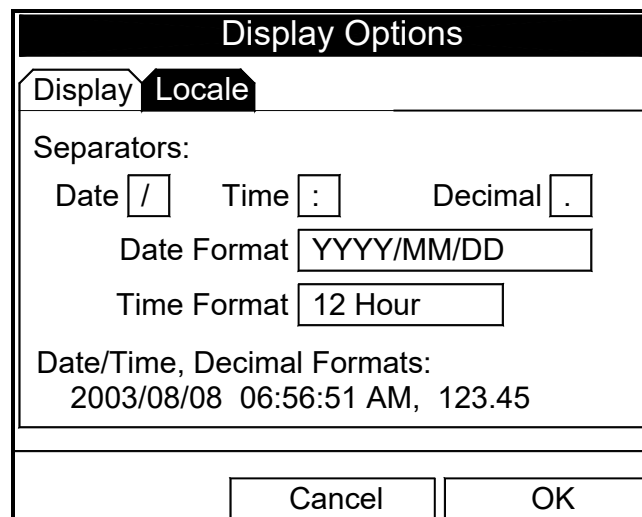

Figure 63: Display Options Window - Locale Tab
1. From the Meter menu, scroll to the Locale tab and press [ENTER]. The Display Options window opens on the Locale tab, as shown in Figure 63 below. To step through each parameter, press the [▼] key.